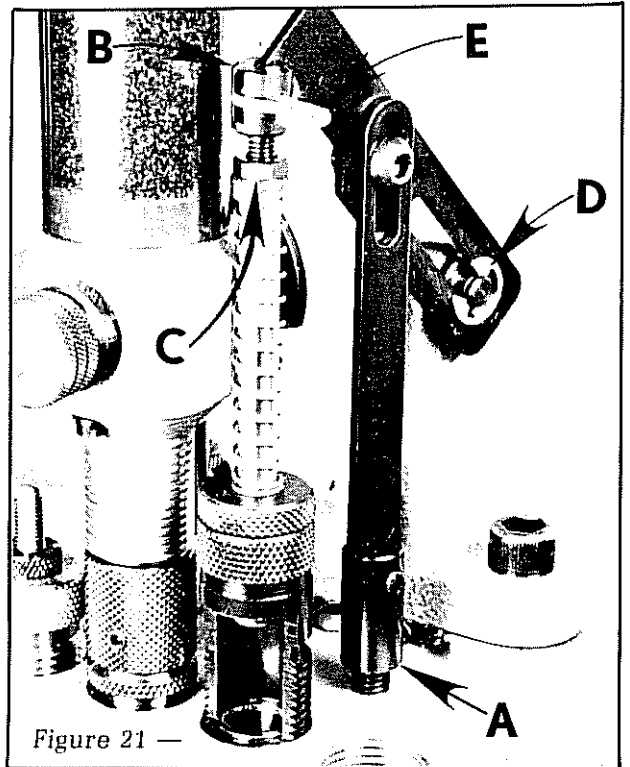

Figure 21 —
Bullet Seating is accomplished with a pivoting linkage assembly. Major adjustment is done by rotating the Bullet Seater Adjustment Stud (A, Fig. 21) by full turns until the bullet is seated almost to full depth. To adjust the Stud, remove the Push Bar Retainer Clip (E) from the Bullet Seater Adjustment Screw (B). Remove also the snap ring securing the Push Bar to the Top Link Mount (D). Turn the whole Linkage Assembly to screw the Stud in or out of the Top Plate.